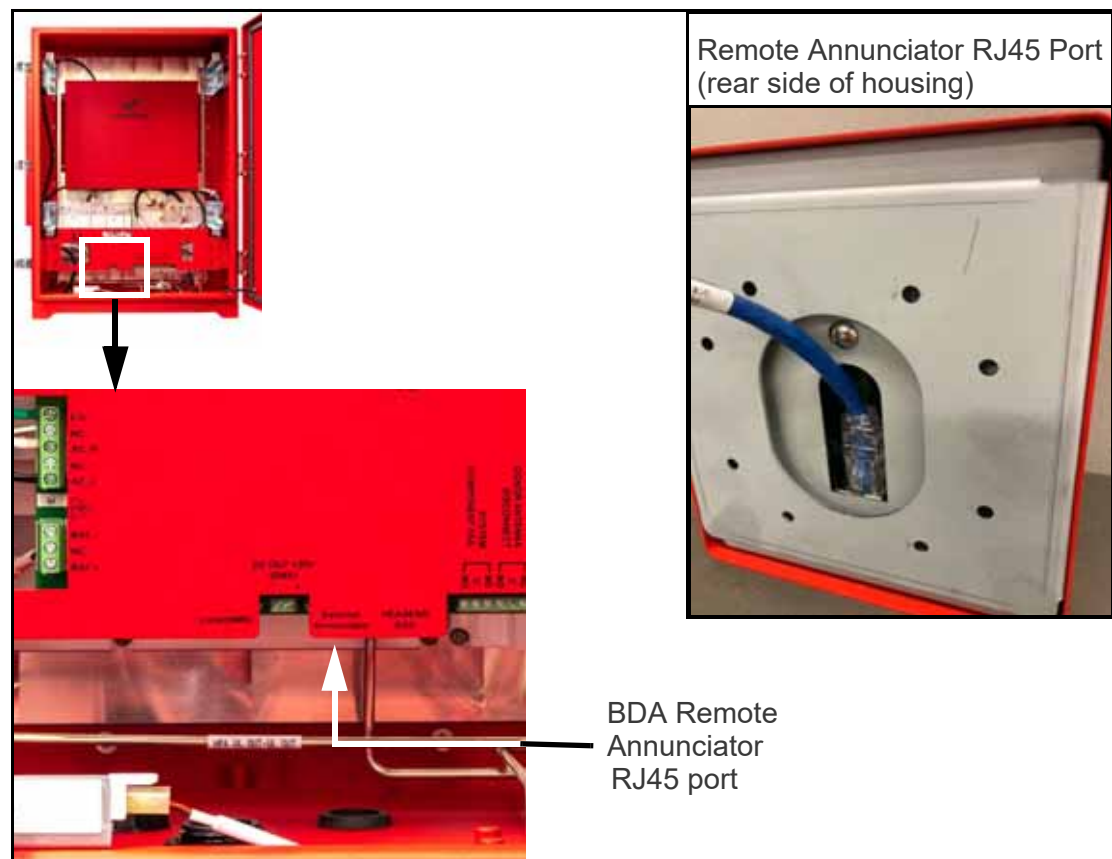

Figure 4-12 Connections to the Remote Annunciator
3. Connect the Ethernet cable to the RJ45 ports inside the BDA and the annunciator. See Figure 4-12. Remove factory installed plugs from RJ45 ports as necessary.